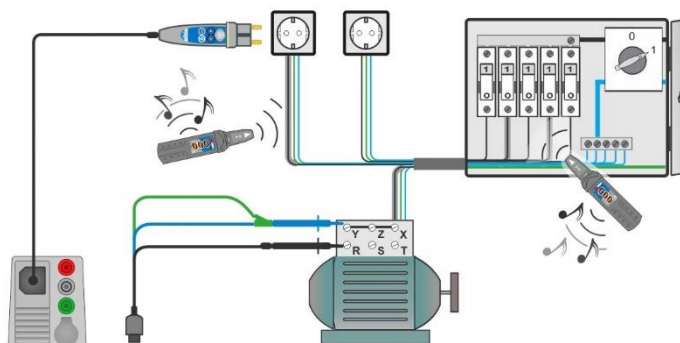

Figure 7.119: Tracing wires under walls and in cabinets
- › Connect 3-wire test lead or Plug commander to the tested object (see **Figure 7.119** and **Figure 7.120**).